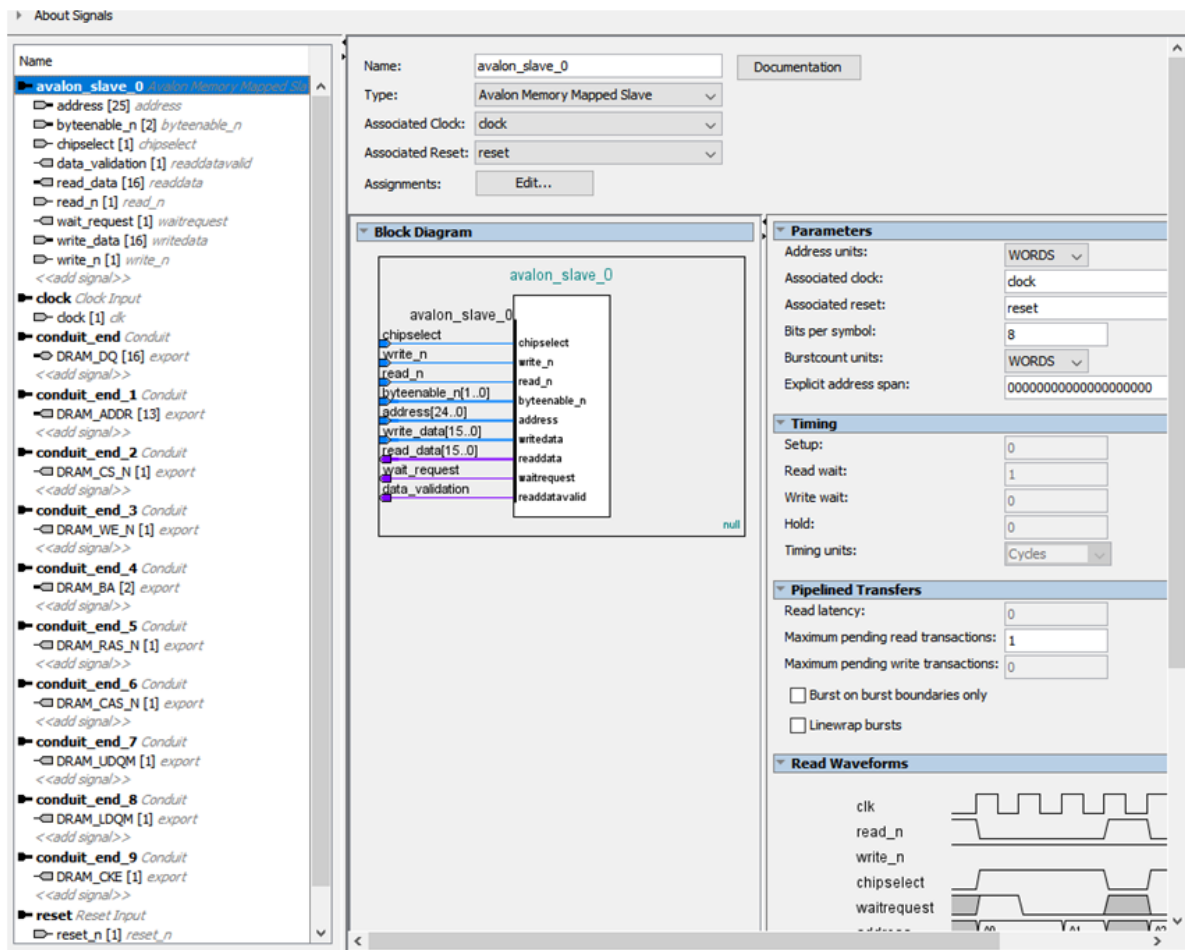

Figure 6: Creating Conduit Interfaces
- (a) Create 10 Conduit interfaces by clicking “<<add interface>>”, which is at the bottom of the “Name” panel of the Component Editor window, and move the 10 signals whose names start with “DRAM_” (if you followed the naming schemes of `SDRAM_Controller.v`) from the “Avalon_slave_0” category to the 10 conduits (Figure 6).